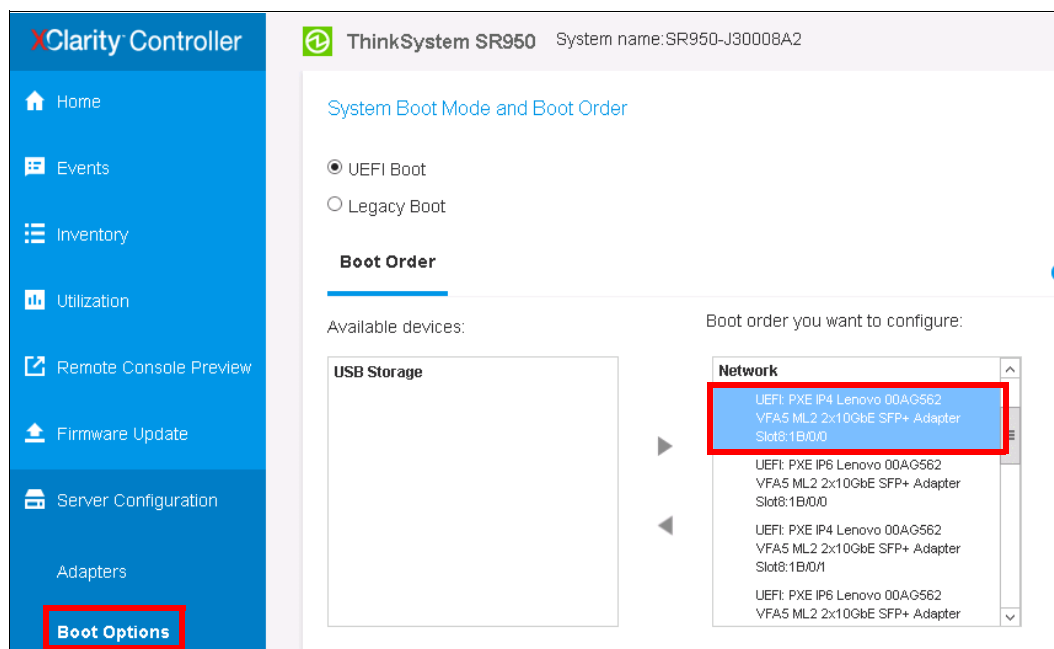

Figure 6-68 Ensure HBA is first listed in boot order
- ▶ Set the HBA as the first boot order from the XCC as shown in Figure 6-68 on page 222. To access the XCC refer to 5.2.1, “Accessing XCC” on page 142.